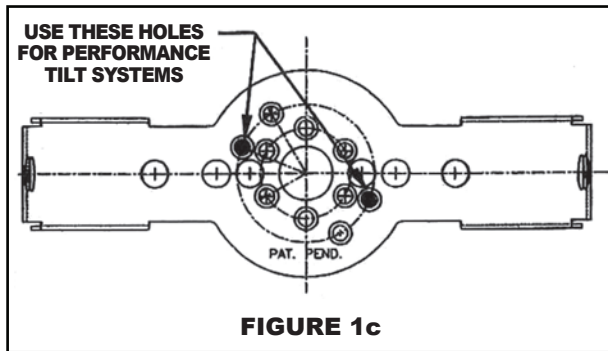

FIGURE 1c
Step 2. Using the template provided, punch mark the rubber boot through to its metal mounting flange. Carefully remove the boot and drill two 3/16" diameter holes in the metal mounting flange of the tilt mechanism. SH91800 tilt has pre-drilled holes. (see Figure 1c).